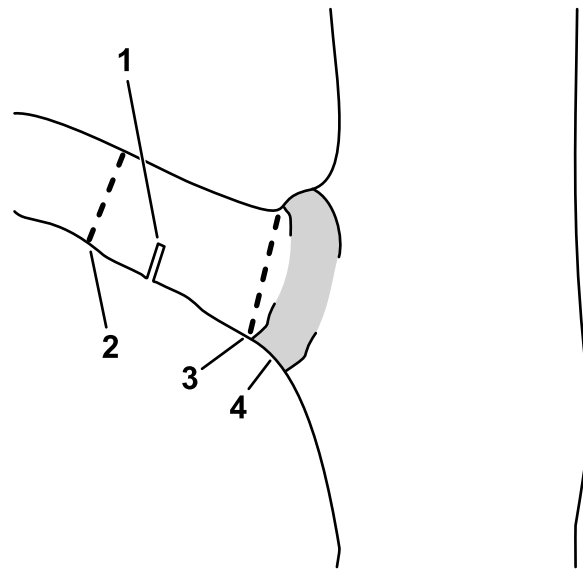

Figure 15
- C. Cut the limb stub at the branch collar (Figure 15).